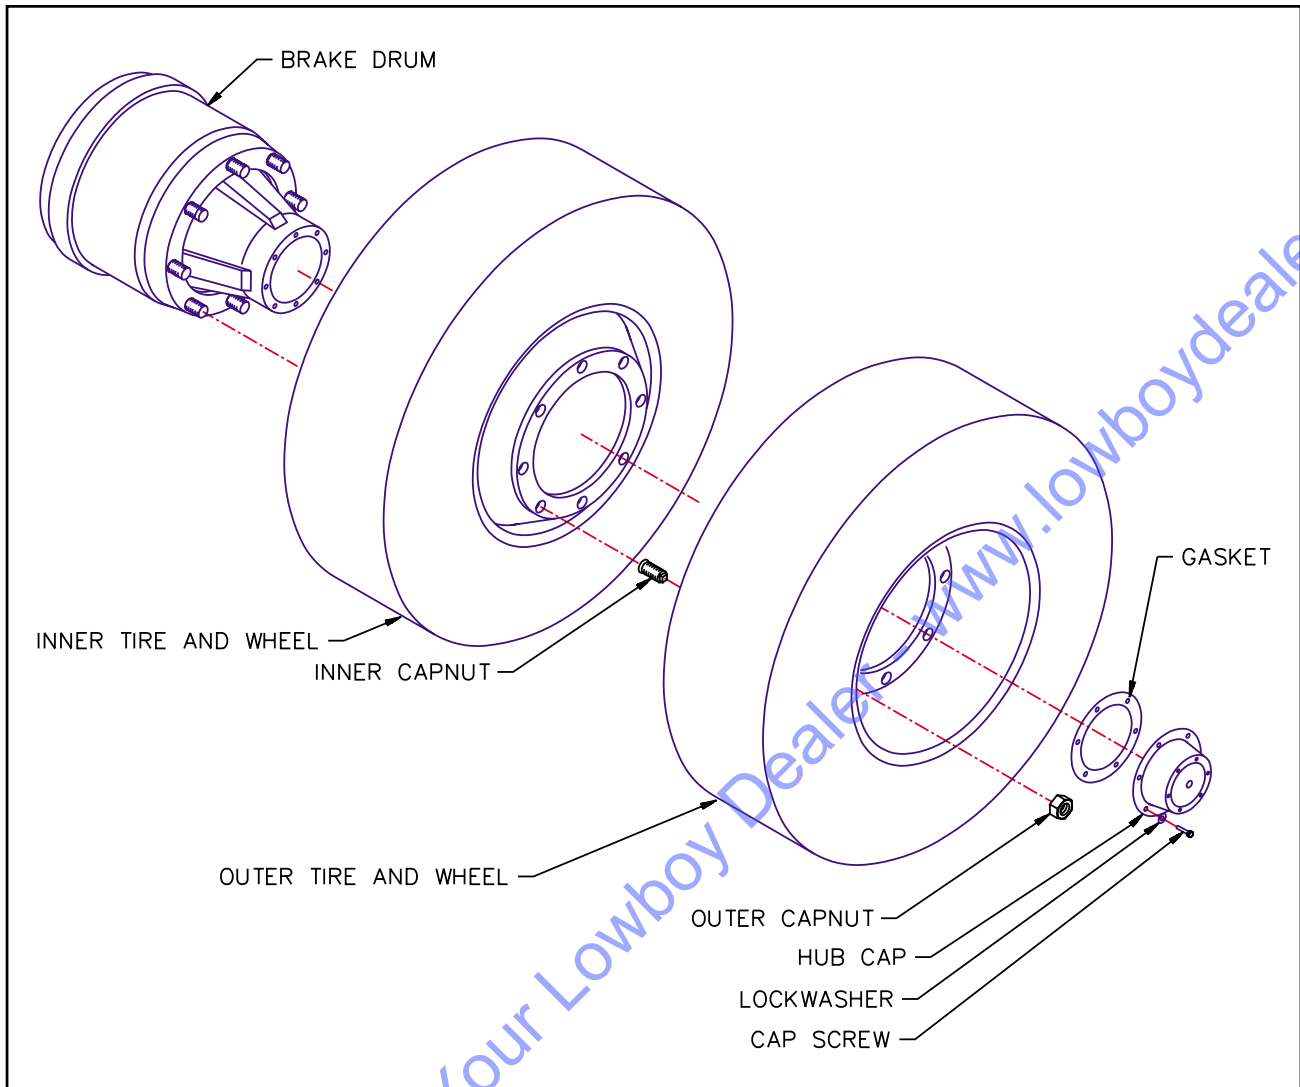

Figure 4-19 Mounting Tires and Wheels
a. Make sure that all mounting surfaces are clean and free of rust, dirt or paint. A wire brush may be used to clean these surfaces (**See Figure 4-19**).